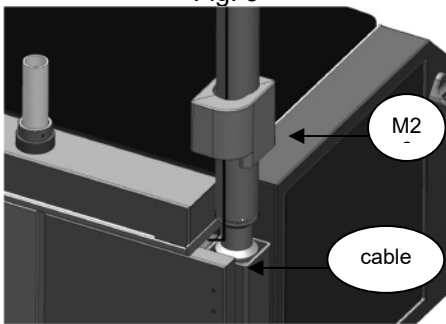

Fig. 7
10. Insert over the cable ends the new trim **M26M** or **M26AM**, provided with the monitor support, and down the tube column **S2** (Fig.7)